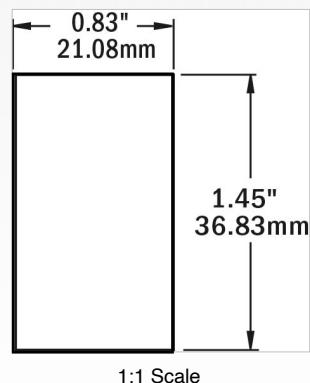

Figure 1, Cutout Template
- Determine where on the dash you would like to install your switch. Some UTVs come with predetermined switch cutout templates already built into the dash. If your vehicle does not have cutout templates built into the dash, cut out the template in Figure 1.
- Use a Dremel or heated razor blade to cut a hole through the dash using the template in Figure 1 or the template already built into the dash.